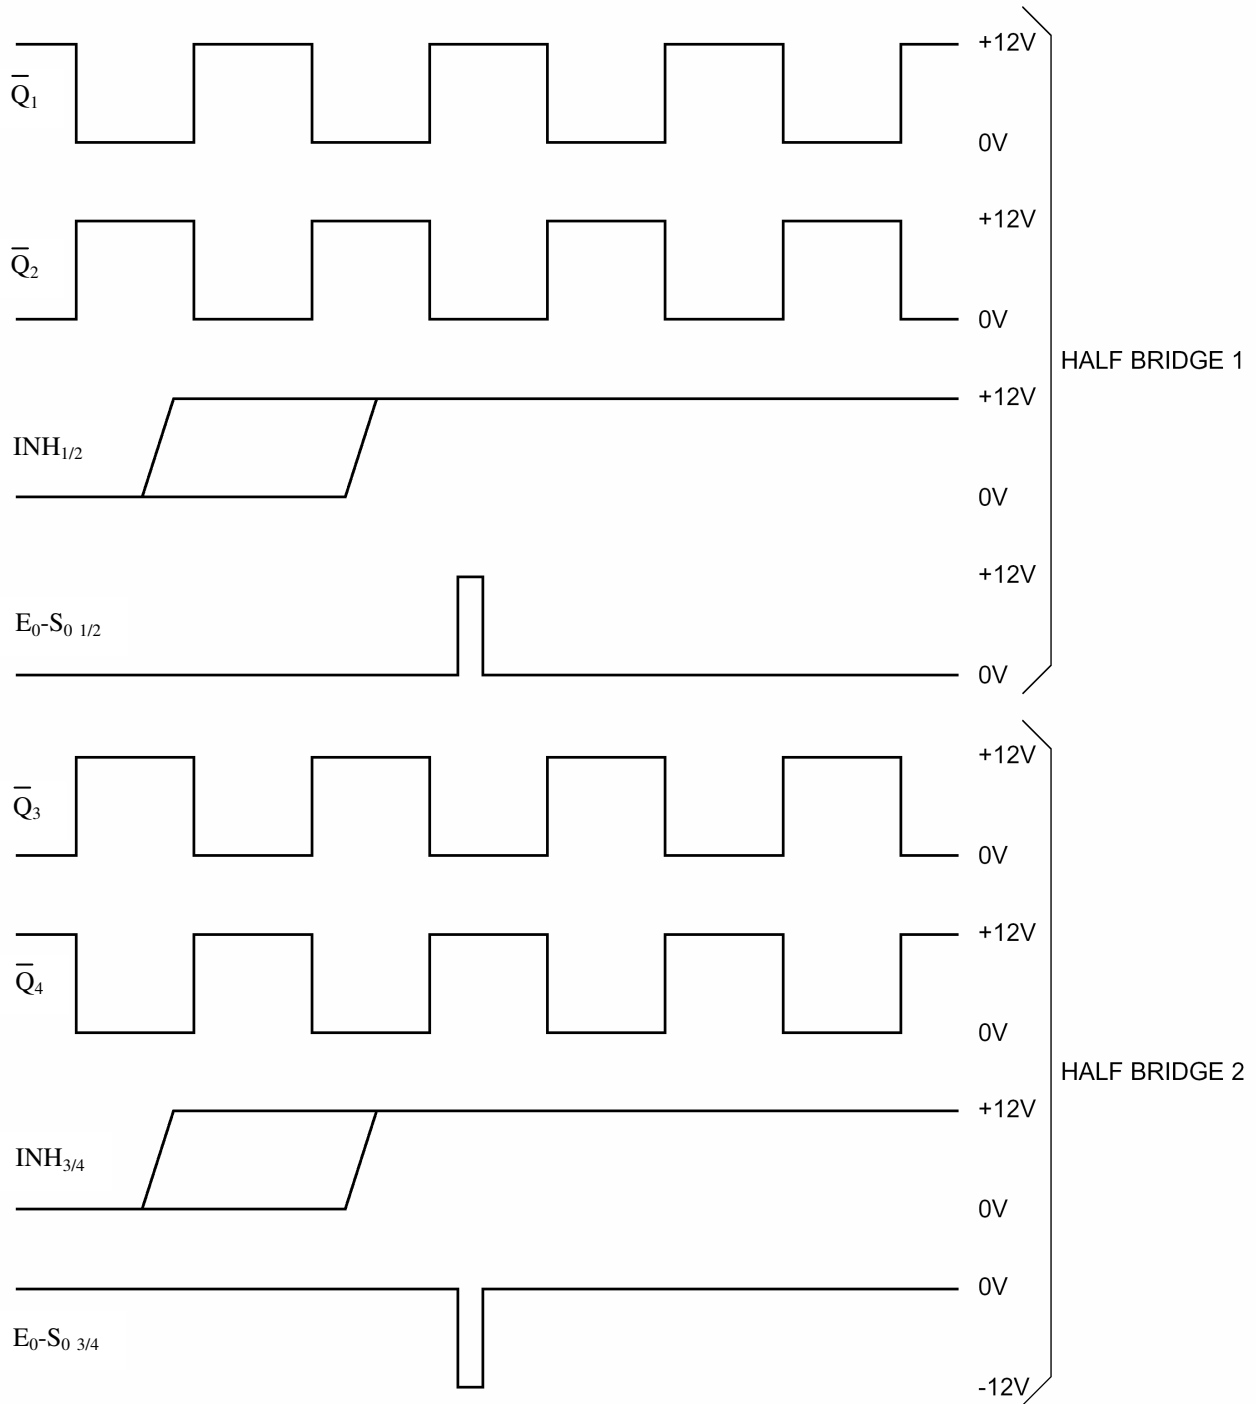

Figure 11: example of input signal for 4 x APTLGF280U120T modules connected in a Full Bridge configuration
• The startup signal, between E₀-S₀, may also be implemented by a negative pulse synchronized with input signal Q being low and forcing the lower switch to turn ON. Examples of both startup sequences being used in the startup of a full – bridge configuration is shown in figure 11.